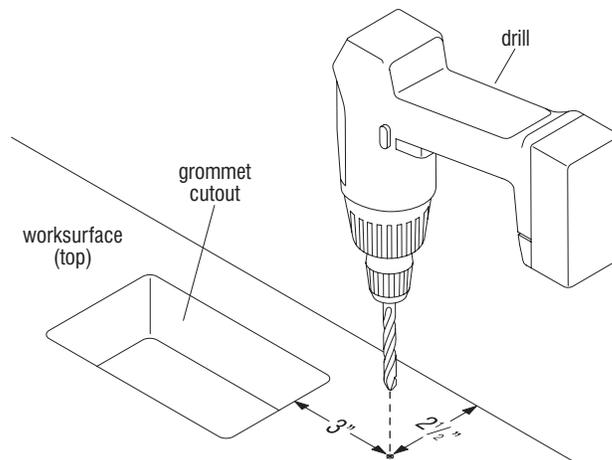

Figure 4
3. On the worksurface top, place a piece of tape over the pilot hole to prevent the laminate from peeling and mark drill hole location. Drill down through the pilot hole using a 3/8" drill bit in a drill driver until it goes all the way through the worksurface (Figure 4).